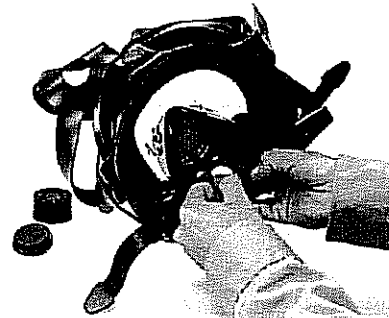

FIGURE 14
- b) Remove the threaded plastic flange which held the exhalation valve seat from the inside of the oral/nasal cup. (See Figure 14.)